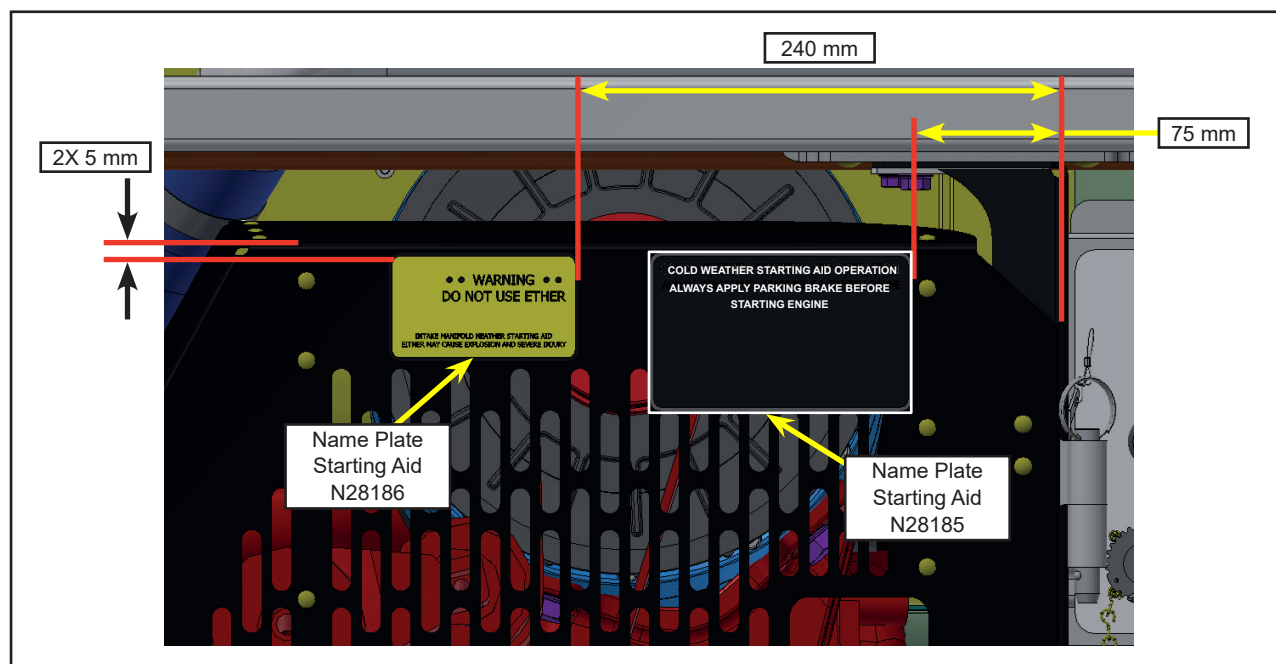

Figure 19 - Installation of Decal
1.22. Installation of name plate decal on the belt guard (see figure 19).